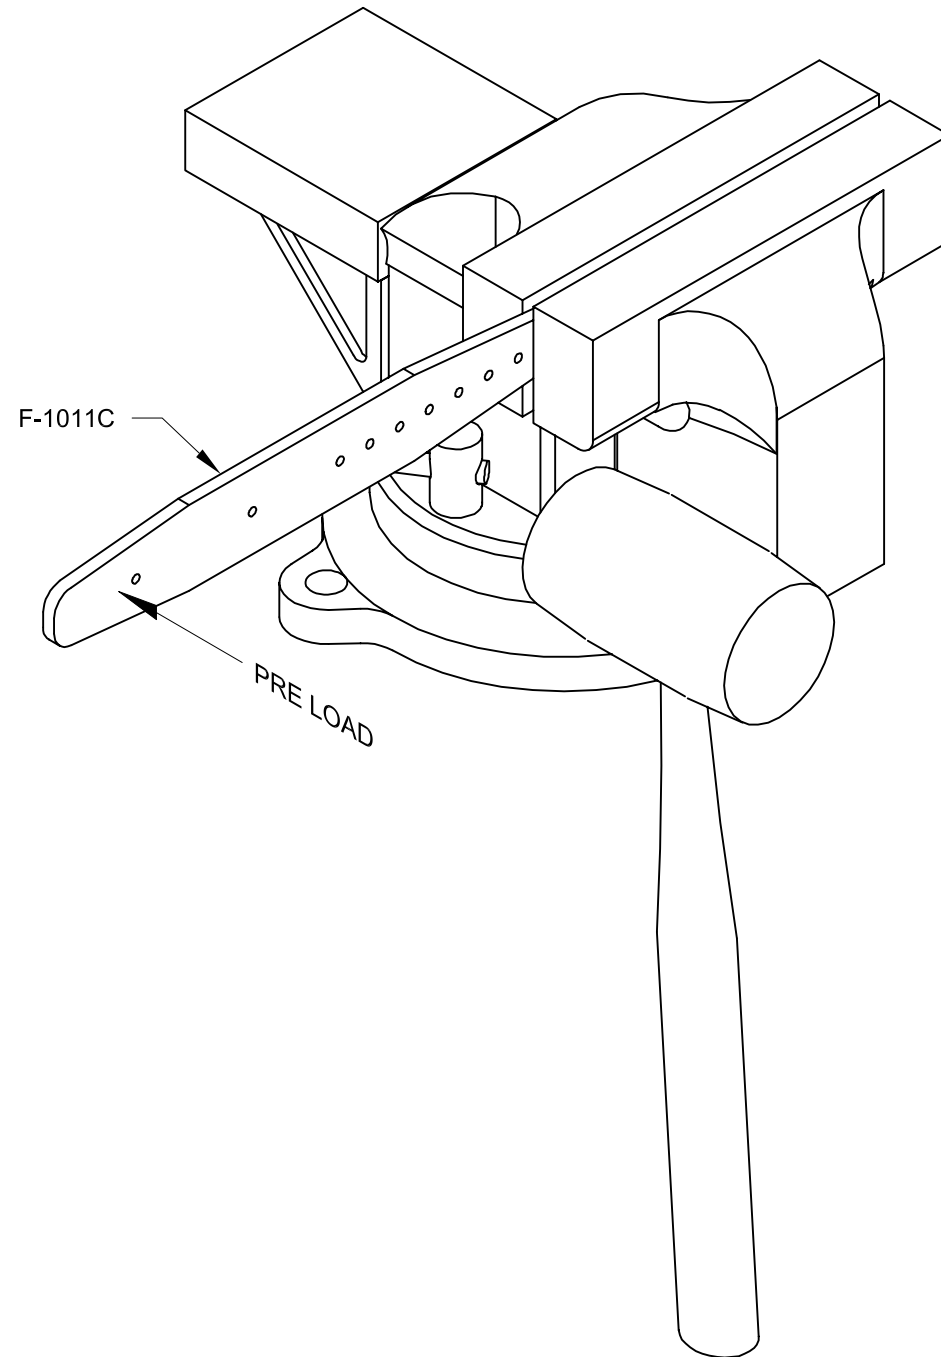

**FIGURE 5: 1011A BULKHEAD STIFFENER**
**Step 6:** Cut the F-1011A Bulkhead Stiffener, using the dimension shown in Figure 5, from one of the six foot lengths of J-channel provided in the kit. Deburr the edges.